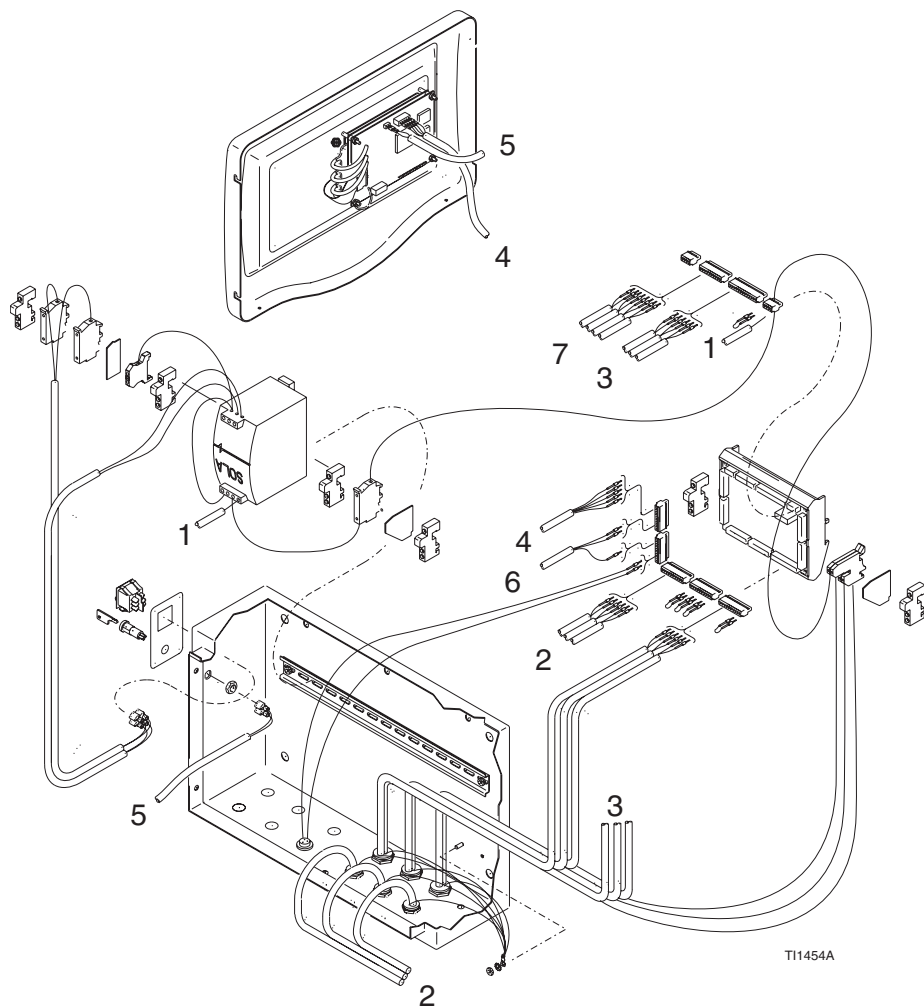

FIG. 12
The ProDispense system can be connected to a PC via Modbus RTU network protocol (6) and/or audible alarms (7) as shown in **FIG. 12**. Refer to field wiring chart, page 60. Follow instructions on page 26 to setup modbus station number and recipe selection. Contact your Graco distributor for Modbus address mapping list.